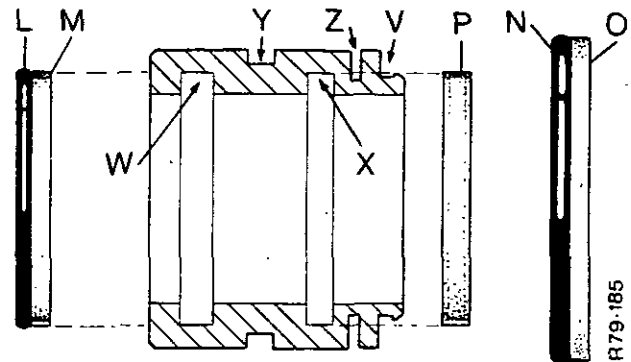

FIGURE 106. FITTING SEALS TO THE SLEEVE
4. Put the small leather ring in groove 'W' (Figure 106). The smooth face must be towards the other groove. Make sure that the leather ring is on its seat and is not twisted.